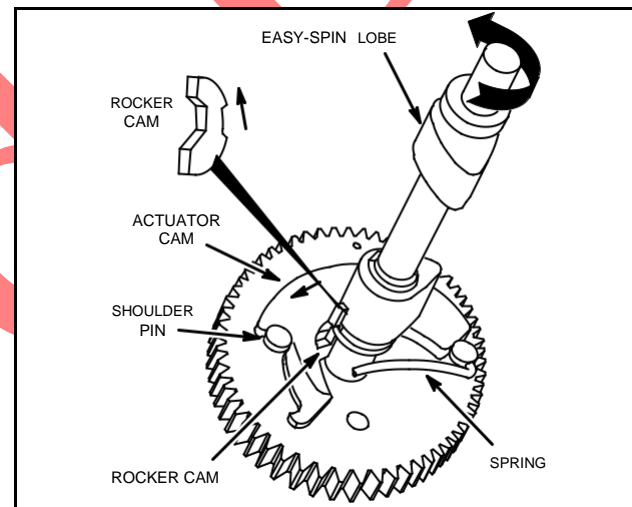

Fig. 879 – START POSITION
3. Release the actuator cam. Actuator cam spring should pull actuator cam against the shoulder pin causing rocker cam to raise up to starting position, Fig. 879.